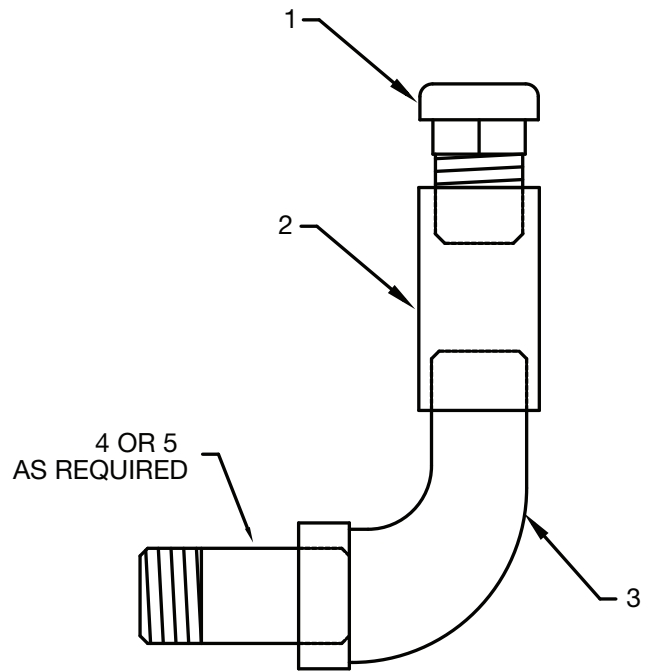

Figure 2 - Vertical Breather Kit Assembly
- ① Refer to Figure 2.
- ② Two lengths of pipe nipples are provided. Only one is required. Use pipe nipple length best suited to the application and discard the other.
- ③ Not shown on drawing. Used only on TA4 - TA12